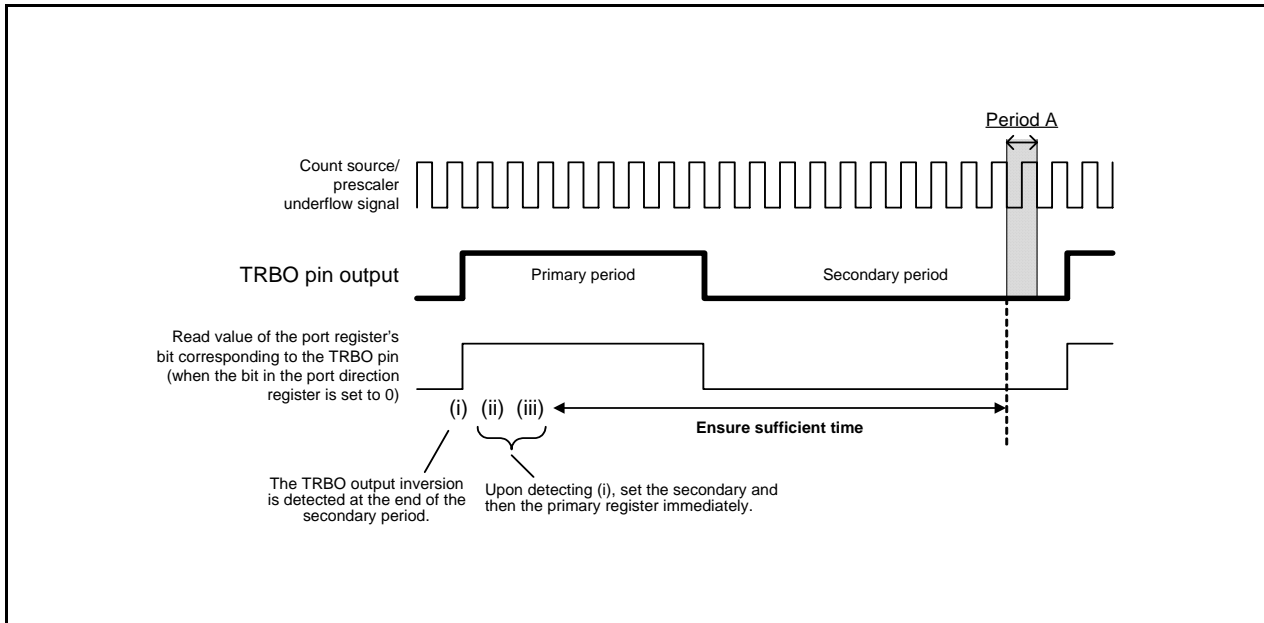

**Figure 21.2 Workaround Example (a) When Timer RB interrupt is Used**
- (1) To write to registers TRBPRE and TRBPR during count operation (TCSTF bit is set to 1), note the following points:
- (2) To change registers TRBPRE and TRBPR during count operation (TCSTF bit is set to 1), synchronize the TRBO output cycle using a timer RB interrupt, etc. This operation should be performed only once in the same output cycle. Also, make sure that writing to the TRBPR register does not occur during period A shown in Figures 21.2 and 21.3.
As shown in Figure 21.2, write to registers TRBSC and TRBPR in the timer RB interrupt routine. These write operations must be completed by the beginning of period A.